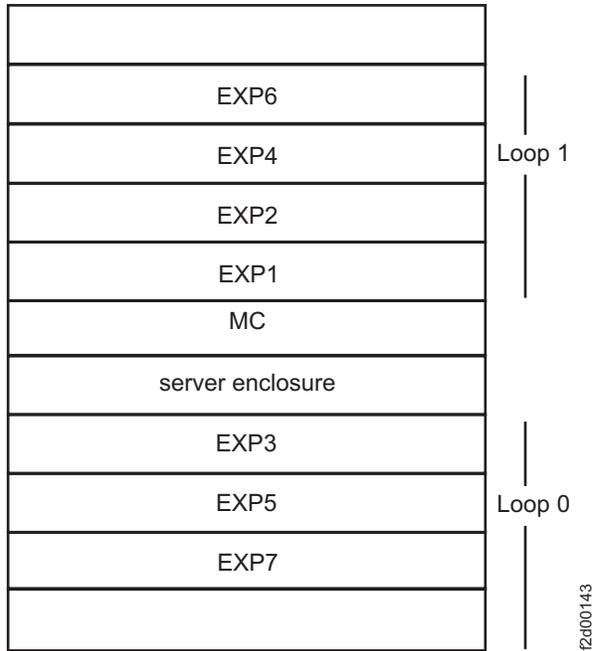

Figure 4. Recommended rack configuration
Figure 4 on page 58 shows a recommended rack configuration for a server enclosure, management console (MC), and seven expansion enclosures (labeled EXP) on Loop 1 and Loop 0. The server enclosure is located in the middle of the rack, with the management console immediately above it. The expansion enclosures for Loop 1 are installed above the management console, in descending order from the top down, with expansion enclosure 6 at the top of the rack and expansion enclosure 1 immediately above the management console. The expansion enclosures for Loop 0 are installed below the server enclosure, in ascending order, with expansion enclosure 3 immediately below the server enclosure and expansion enclosure 7 at the bottom of the rack.